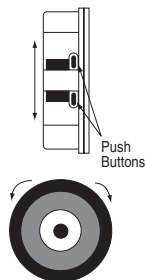

Figure 11
- C. Set upper limit by depressing and releasing the proper push button (see Fig. 11).
- E. Set lower limit by depressing and releasing the yellow push button (see Fig. 11).